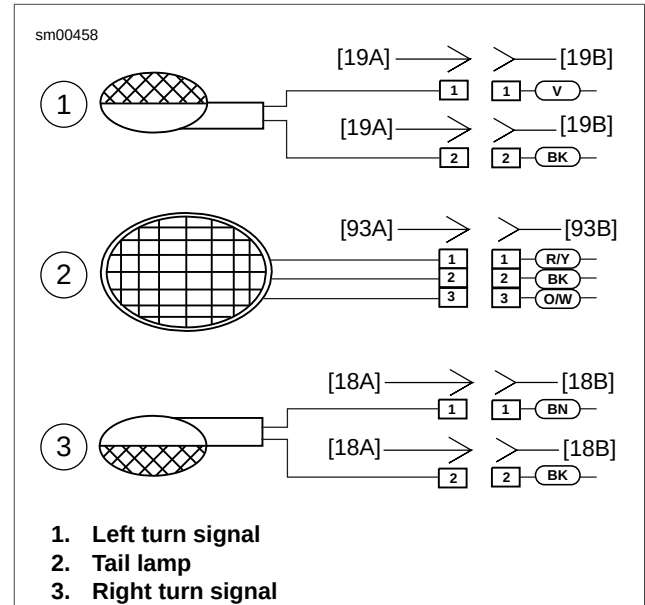

Figure 7-50. Rear Turn Signal Connections: Ulysses
- See Figure 7-50. Separate left turn signal connector [18] and right turn signal connector [19].
- Attach turn signal using lockwasher and jam nut (4). Tighten fastener to 25-28 **in-lbs** (2.8-3.2 Nm).
- Attach bullet connectors on turn signal wires as shown in Figure 7-50.